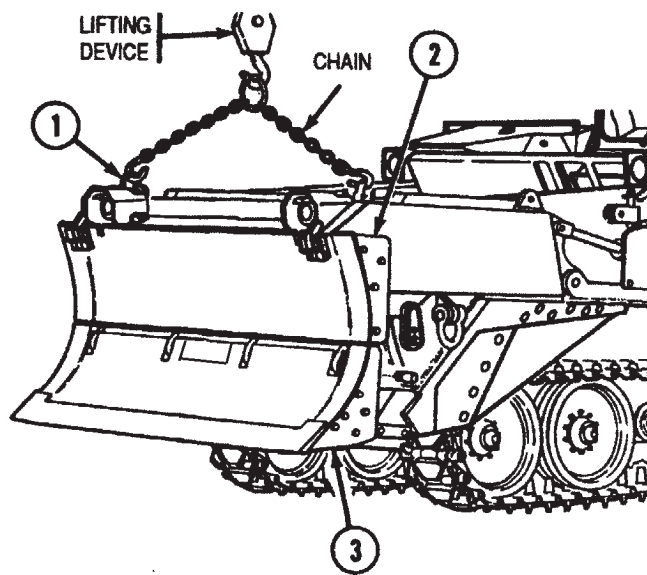

Figure 15. Installing Support Blocks.
Step 1 applies to Figure 15.
1. Fold and lock dozer blade into travel mode before connecting chain and lifting device to lifting eye shackles (1) of apron and dozer assembly (2). Raise apron and dozer assembly about 6 in. (15 cm) and support with blocks under dozer blade (3).